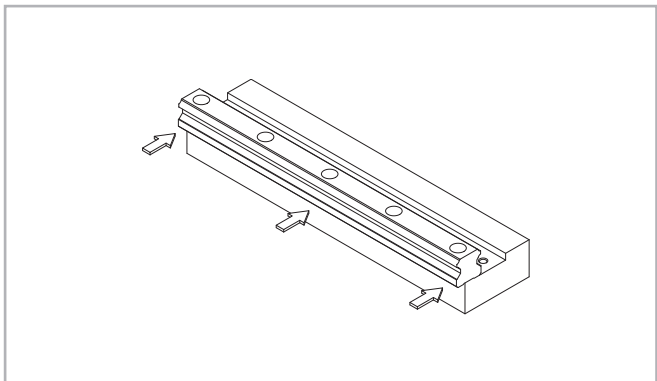
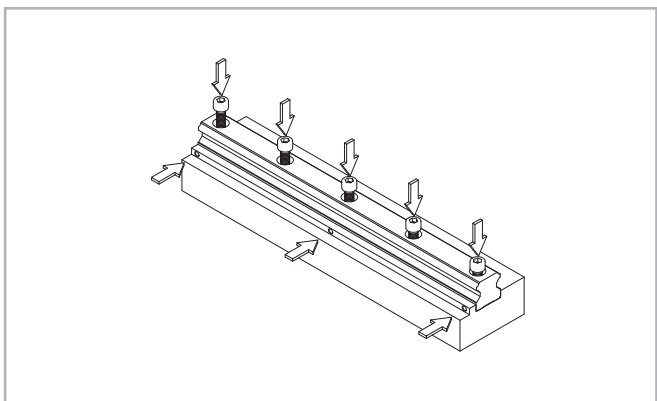

Fig. 52
Fig. 53
(2) Carefully lay the guide rail on the assembly surface (see fig. 52) and slightly tighten the fixing screws so that the guide rail lightly touches the assembly surface (align the guide rail along the shoulder edge of the assembly surface, see fig. 53).